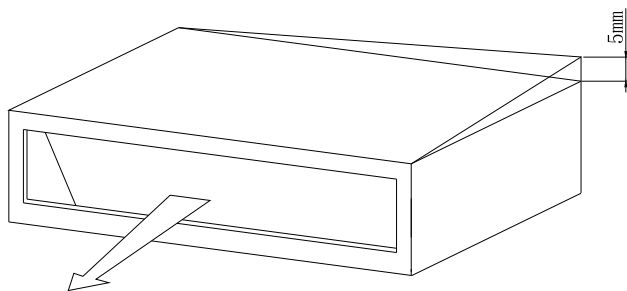

Fig. 4.8 Top Surface Inclination Degree
(2) As shown in Fig. 4.8, the rear part of indoor unit is slightly lower than its front part (by 0~5mm) so as to facilitate drainage.
(3) Tighten the suspension nut upon completion of adjustment. It's essential to apply thread locking agent to avoid nut looseness.